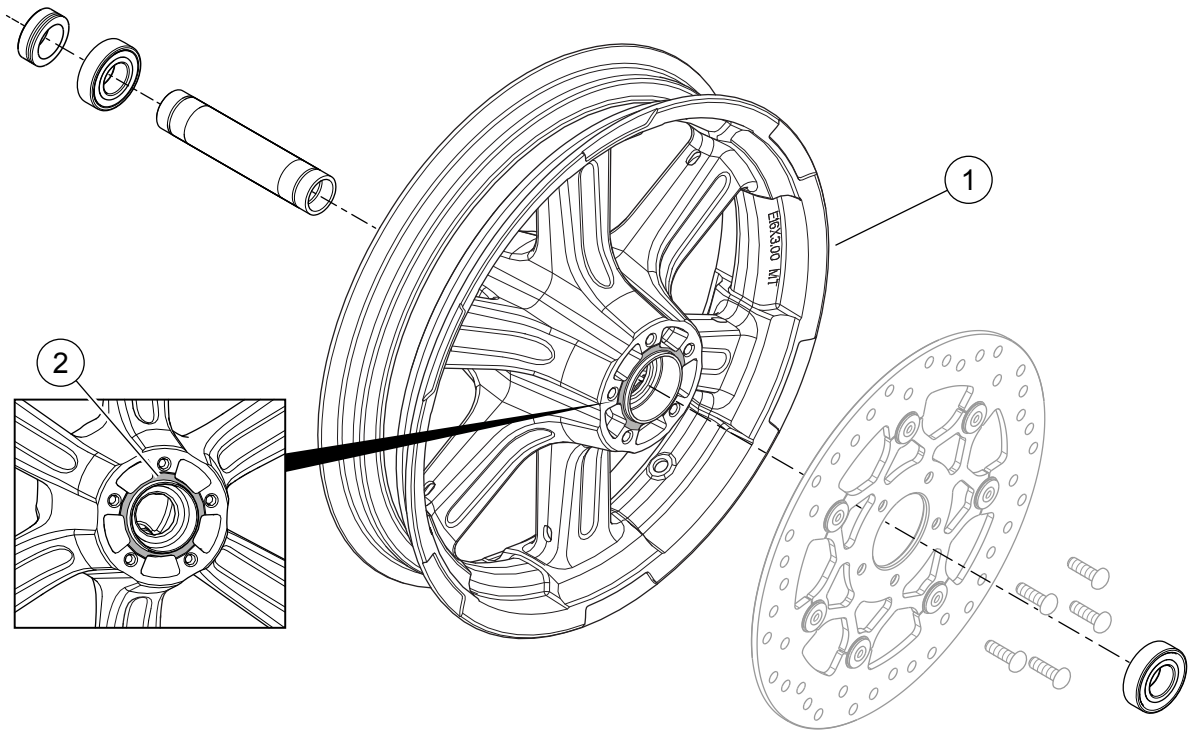

Figure 2. Service Parts: Front Machete Wheel Kit
This kit includes a custom wheel, and depending on the kit, may also include a hub cap. See Figure 2. and Table 3 for kit contents.
2. See Figure 2. Install valve stem assembly (L) on wheel. Refer to TIRES in service manual.